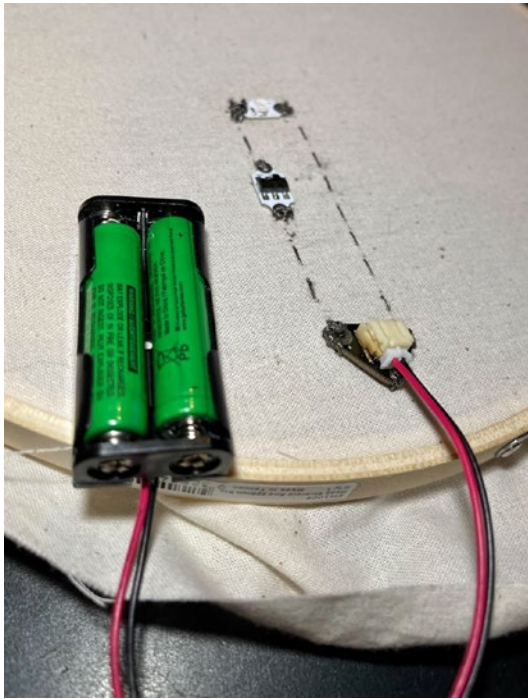

Figure 4-15. *Our circuit with the connected battery holder*
2. Now insert the battery into the battery holder and turn the switch on (Figure 4-15). Your LED should light up. Congratulations – you have created your first e-textile circuit! As you’ve seen, e-textile circuits are slightly different to standard circuits just due to requirements for flexibility, fit, and resistance of conductive thread.